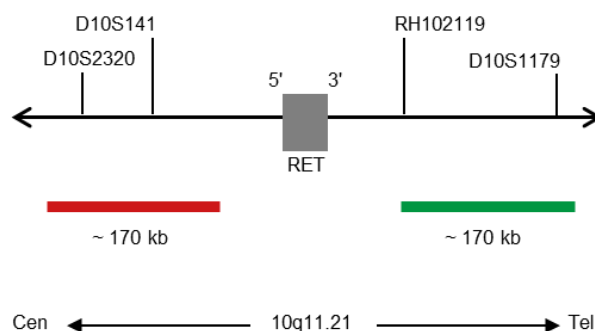

Fig. 1: SPEC RET Probe map (not to scale)
- Digoxigenin-labeled polynucleotides (~0.50 ng/ μ l), which target sequences mapping in 10q11.21* (chr10:43,687,278-43,856,587) distal to the RET breakpoint region (see Fig. 1).
- Dinitrophenyl-labeled polynucleotides (~0.75 ng/ μ l), which target sequences mapping in 10q11.21* (chr10:43,340,888-43,510,171) proximal to the RET breakpoint region (see Fig. 1).